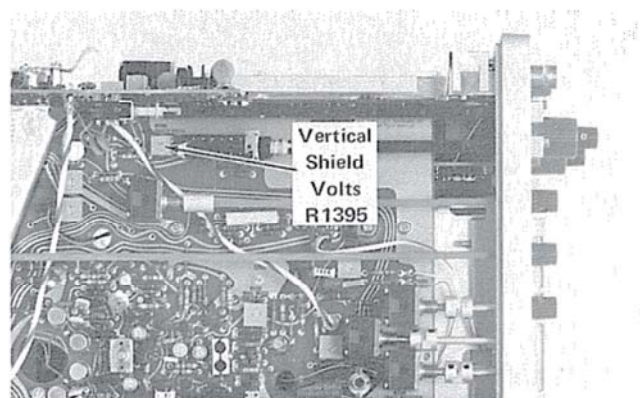

Fig. 5-6. Location of Vertical Shield Voltage adjustment.
f. ADJUST—Vertical Shield Volts adjustment, R1395 (see Fig. 5-6), for a meter reading equal to the voltage calculated in step 11-c.